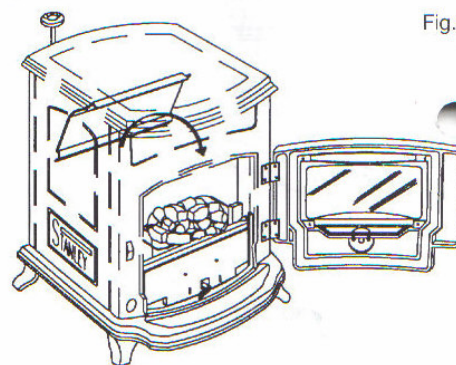

Fig.43
6. Remove the top cast iron baffle and clean if necessary. Replace when cleaned. (Refer to Fig.43)